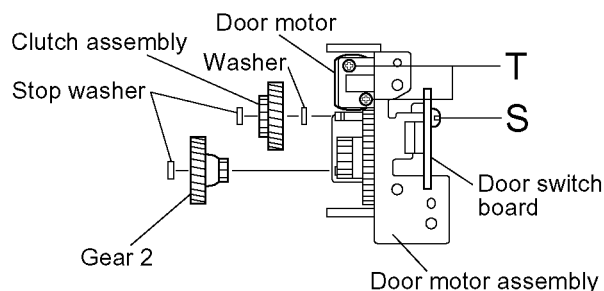

Fig.2-16
2.2.3 Removing the door motor (See Fig. 2-16.)